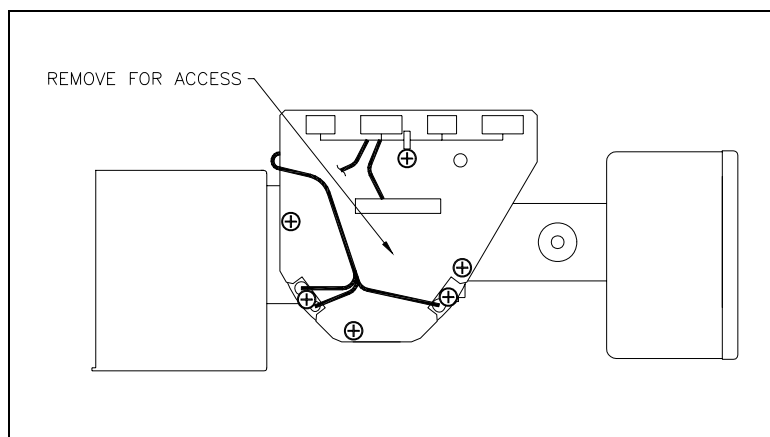

Figure 20. Rx Cell Cleaning
2. Remove the bulkhead/end cap from the Rx cell. Refer to Figure 20.